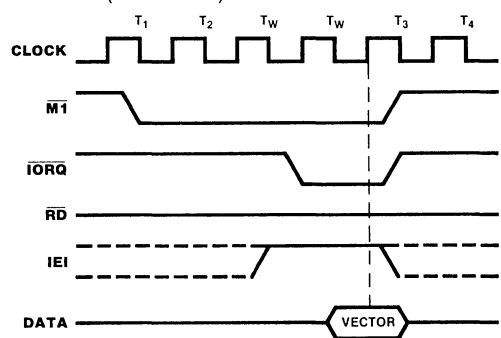

Figure 17. Interrupt Acknowledge Cycle
**Interrupt-Acknowledge Cycle.** After receiving an interrupt-request signal from an SIO (INT pulled Low), the Z80 CPU sends an interrupt-acknowledge sequence,  $\overline{M\overline{I}}$  Low and  $\overline{IORQ}$  Low, a few cycles later (Figure 17).